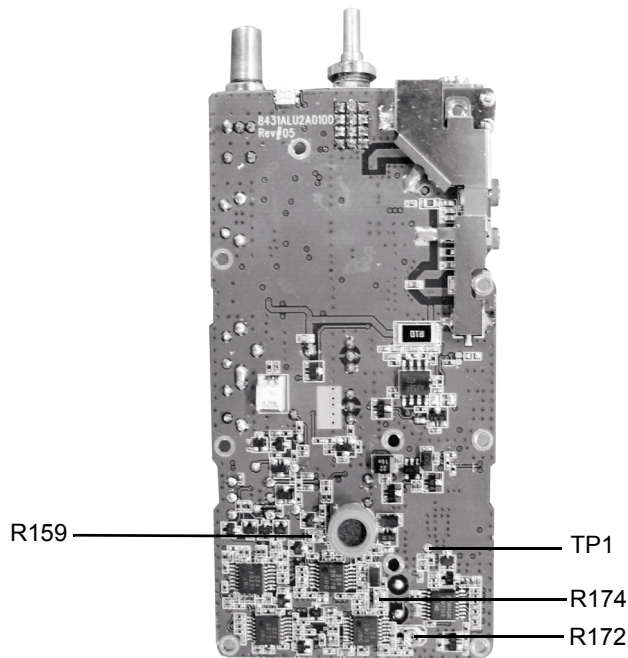

Figure 3-3 Top Side of PCB
6. Using the ceramic tool, adjust R174 to tune to 100% of the maximum deviation (refer to Figure 3-3).
5. Using the ceramic tool, adjust R159 to tune maximum modulation between 2.4 ± 0.02 KHz for narrow band or under 5KHz for wide band (refer to Figure 3-3).
5. Using the ceramic tool, adjust R172 to tune subtone modulation between 0.42 ± 0.02 KHz at narrow band (refer to Figure 3-3).
2. Detect output voltage at test point TP1 (refer to Figure 3-3).